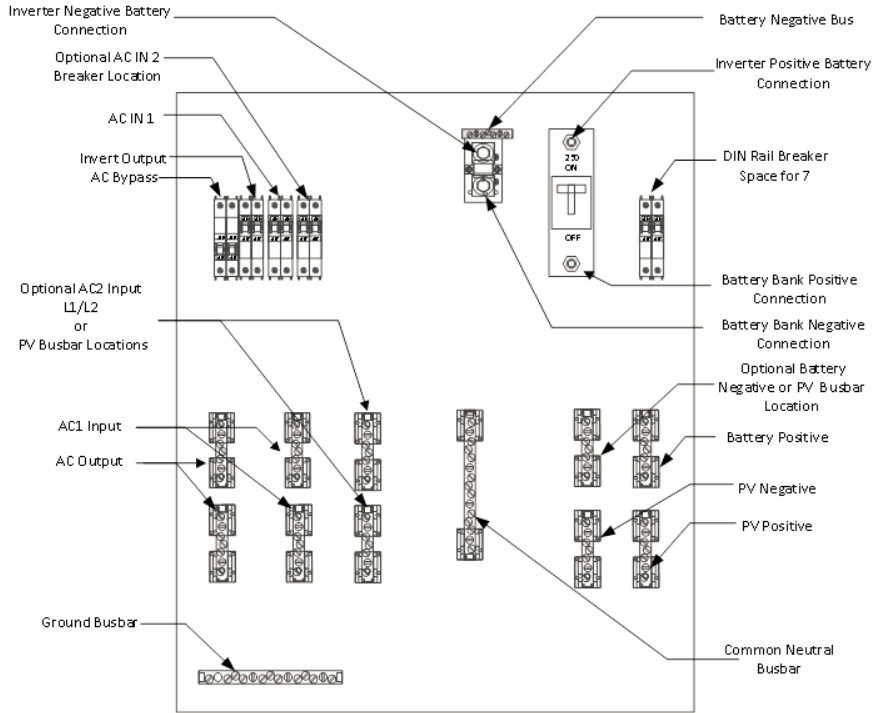

Figure 8 - NA 5kVA Component Locator
- Diagrams of the AC and DC wiring for the VE Panel Series enclosure are shown in Figures 8 through 17 and are provided to assist you or your system installer.